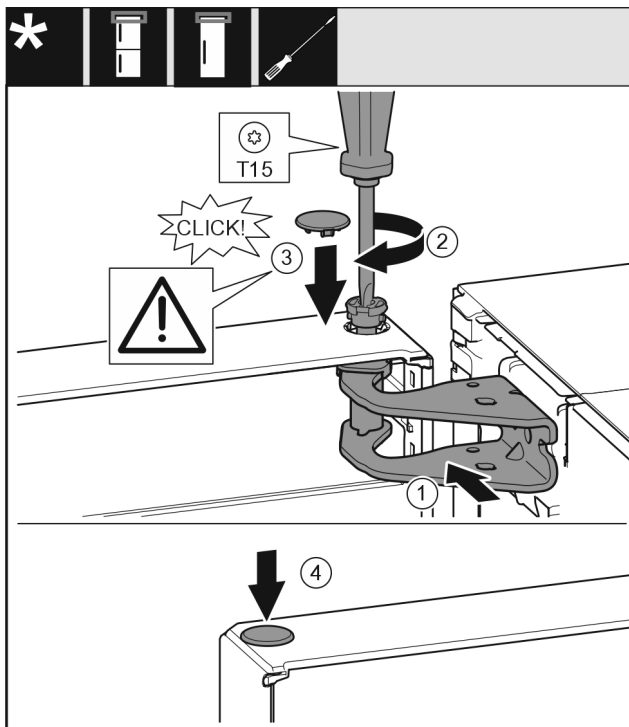

Fig. 15
- ▶ Align the top of the door with opening in the bearing bracket. Fig. 15 (1)
- ▶ Insert the bolt and tighten with a T15 screwdriver. Fig. 15 (2)
- ▶ Fit the protective cover to protect the door: Insert the protective cover and check that it lies flush on the door. If not, insert the bolt fully. Fig. 15 (3)
- ▶ Insert the plugs. Fig. 15 (4)